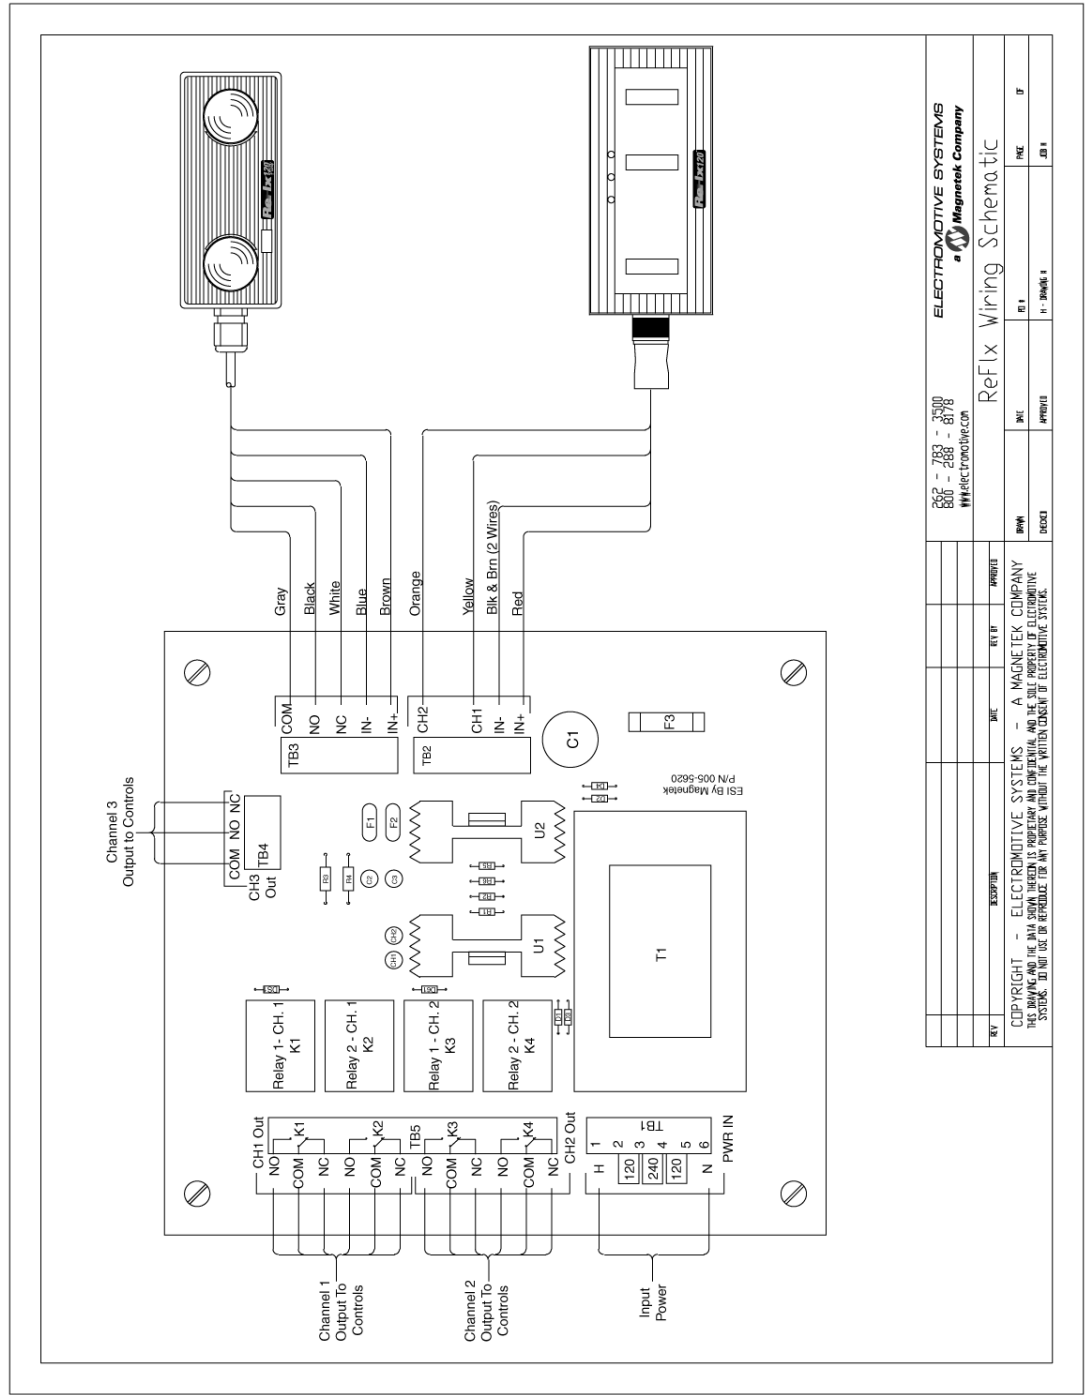

Figure 4.3 Schematic Drawing for the ReFlx 120 Plus System
Reference Fig. 4.3 ReFlx 120 “Plus” Schematic Drawing on page 10 during the wiring process.
3. Wire in the sensor(s) as shown in Fig. 4.3 ReFlx 120 “Plus” Schematic Drawing. If you have the ReFlx 120 System, you will only wire the “two (2) channel” sensor. If you have the ReFlx 120 “Plus” System, you will wire in both sensors.